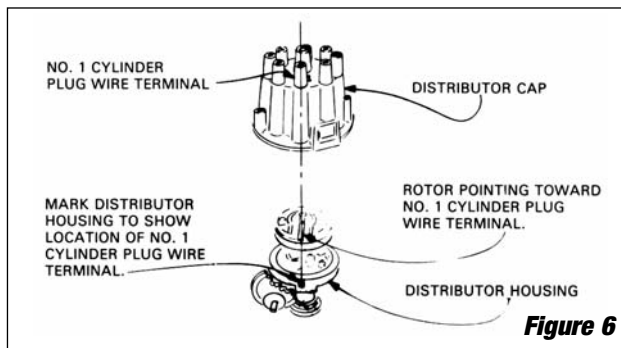

Figure 6
5. **See Figure 6** for all details.
- Install distributor with rotor pointing to your mark on the housing and the vacuum can lined up with your mark on the firewall or valve cover (**See Figure 6**).
- See Figure 6** for correct positioning of rotor and ignition on No. 1 cylinder.